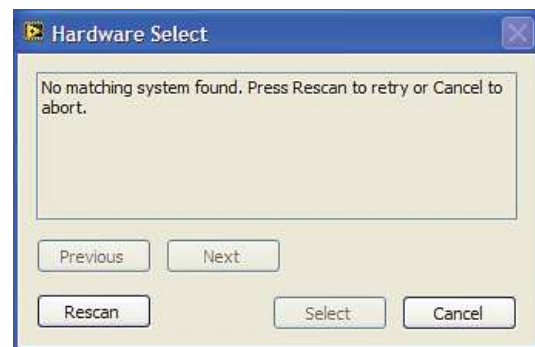

Figure 14. Connectivity Error Alert
2. If the **AD7292** evaluation system is not connected to the USB port via the **EVAL-SDP-CB1Z** when the software is launched, a connectivity error displays (see Figure 14). Connect the evaluation board to the USB port of the PC, wait a few seconds, click **Rescan**, and then follow the on-screen instructions.